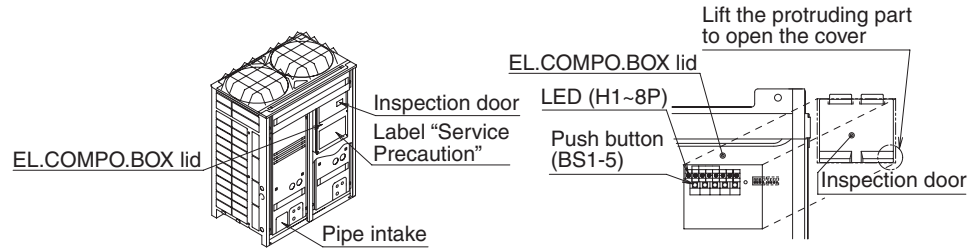
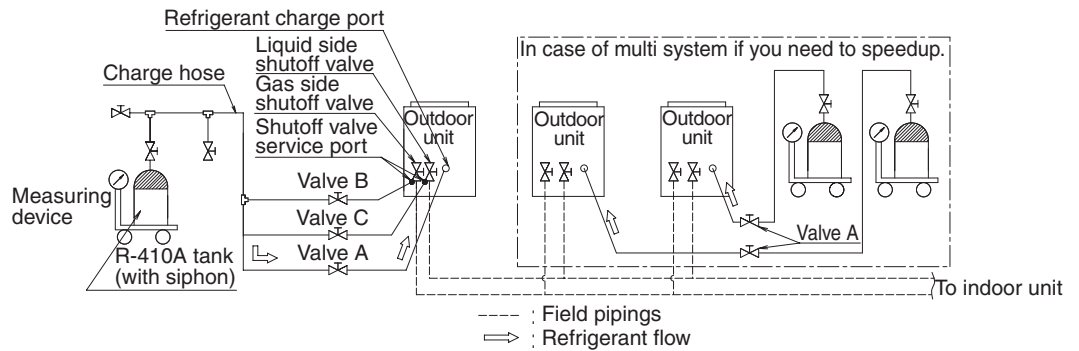

figure 32
figure 33
- Perform the refrigerant charging operation following [Refrigerant charging operation procedure] as shown below, and charge the remaining refrigerant of the "additional charging amount". For performing the refrigerant charging operation the push button on the PC-board (A1P) of outdoor unit (In case of multi system master unit) are use. (See the figure 32) In addition, the refrigerant are charged from the refrigerant charge port via the valve A. (See the figure 33)
If you need to speedup in case of multi system, connect the refrigerant tanks to each outdoor unit as shown in the figure 33.
- Open the liquid and gas side shutoff valves (The valve A~C must be closed. The valve A~C means the valves in the figure 33.)